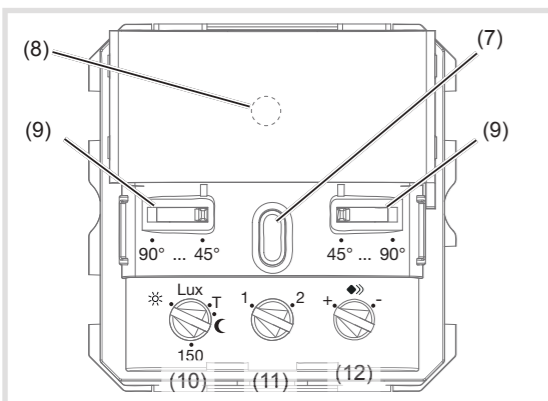

Fig. 9: Operation and adjustment elements
Overview of operation and adjustment elements (figure 9)
The motion detector provides two operating modes which can be selected via the operating mode potentiometer (Fig. 9, 11):
The detection angle can be restricted for the right side and for the left side via each adjuster (figure 9, 9) between 45° ... 90° for each adjuster. This can be carried out on the device. Thus the detection angle can be between 90° and 180° (Fig. 10).
- Set the response brightness potentiometer (Fig. 9, 10) to T.
- Turn the response brightness potentiometer (Fig. 9, 10) to the desired position.
- Turn the sensitivity potentiometer (Fig. 9, 12) to the desired position.
- Turn the response brightness potentiometer (Fig. 9, 10) to Test (T).